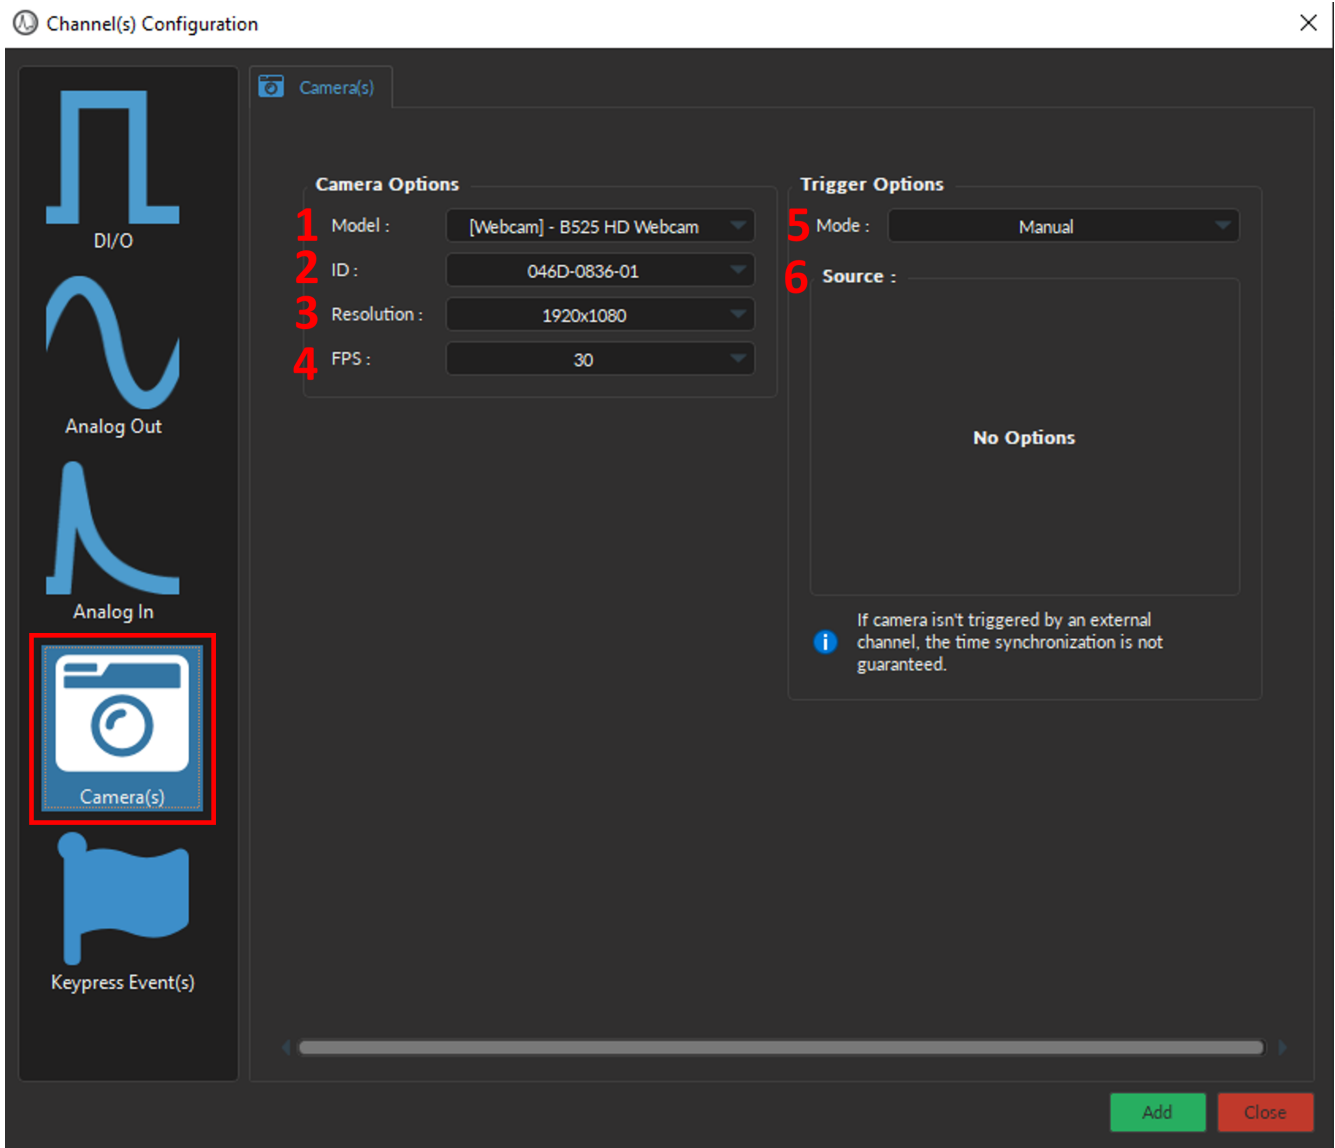
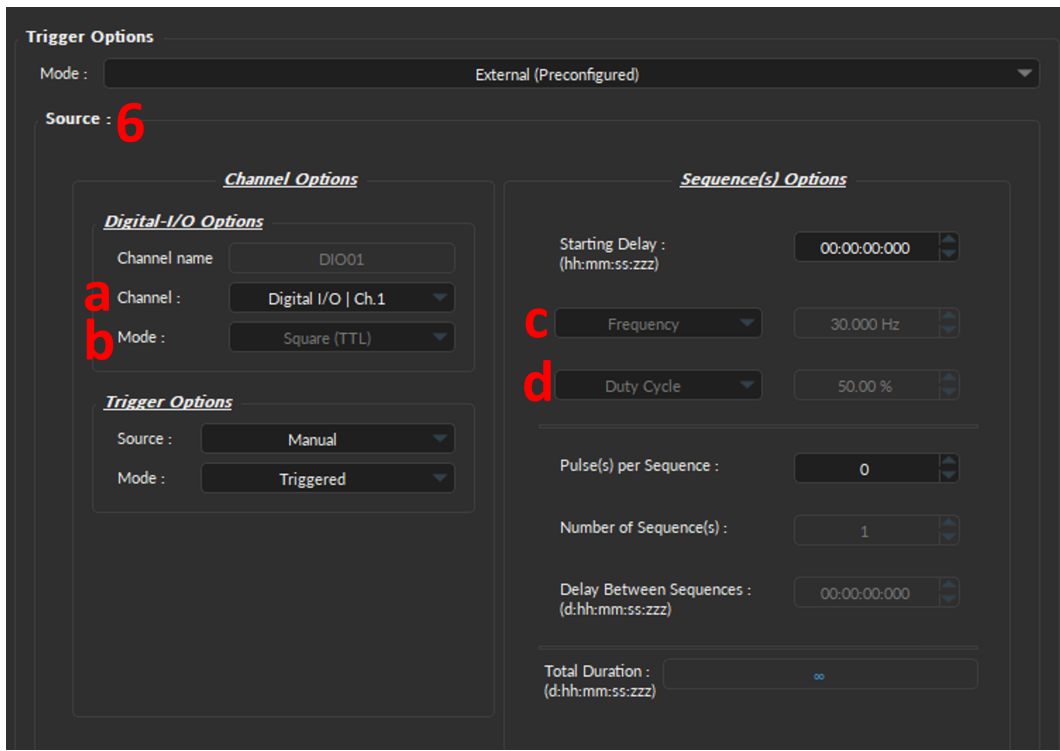

Figure 5.37: Channel(s) Configuration, Camera
Figure 5.39: Channel(s) Configuration, Camera - External (Preconfigured)
1. The **Model** (Fig. 5.37, 1) allows you to select the camera of choice based on the type of camera.
2. **ID** drop-down list (Fig. 5.37, 2) is used to select a camera based on its unique ID. The ID is particularly useful if multiple cameras of the same model are required for the experiment.
3. The **Resolution** (Fig. 5.37, 3) is used to set the image size. The larger the number of pixels used for width x height, the better the resolution. Currently, image size can range between 160x120 to 1920x1080 pixels.
- The **FPS** (Fig. 5.37, 4) is used to specify the frame rate of the camera (i.e. the number of images displayed per second). FPS can be any value between 5-30 for web cameras and up to 60 FPS for the *Doric Behavior Camera*.
- The **Mode** (Fig. 5.37, 5) sets the type of trigger that will control the camera. Depending on the type of camera, at most three modes are available:
- The **Source** (Fig. 5.37, 6 & Fig. 5.39) is only used for the **External (Preconfigured)** mode, and displays the **Digital I/O** channel with the preconfigured parameters that will be created at the same time as the **Camera Channel** (Fig. 5.39). For a detailed description of each Digital I/O parameter see the corresponding section in the Fiber Photometry System Manual. Briefly, key parameters include:
- The **Channel** (Fig. 5.39, a) corresponds to the physical Digital I/O channel number on the Console that is connected to the trigger cable of the *Doric Behavior Camera*.
- The **Mode** (Fig. 5.39, b) is by default set to the *Square (TTL)* which provides the external trigger signal to the camera. This parameter cannot be changed.
- c) The **Frequency** (Fig. 5.39, c) corresponds to the **FPS** set in the **Camera Options**. Changing the **FPS** will automatically change the **Frequency** in the **Sequence(s) Options**.
- d) The **Duty Cycle** (Fig. 5.39, d) is by default 50%. The frame will be taken at the start of each square pulse.